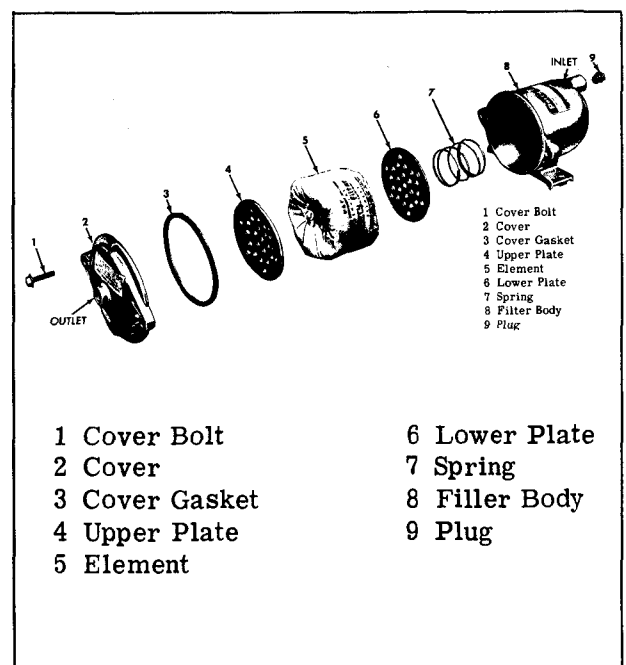

Figure 15—Water Filter Components
NOTE: Key numbers in text refer to figure 15.
(2) to filter. Remove cover and gasket (3). Discard gasket.
4. Remove upper plate (4), element (5), lower plate (6), and spring (7), from filter body (8). Flush out filter body.
6. Referring to figure 15, position spring (7), lower plate (6), new element (5), and upper plate (4) in filter body (8). Install cover (2) using new gasket (3). Tighten cover attaching bolts evenly and firmly. Install drain plug (9) in bottom of filter body.